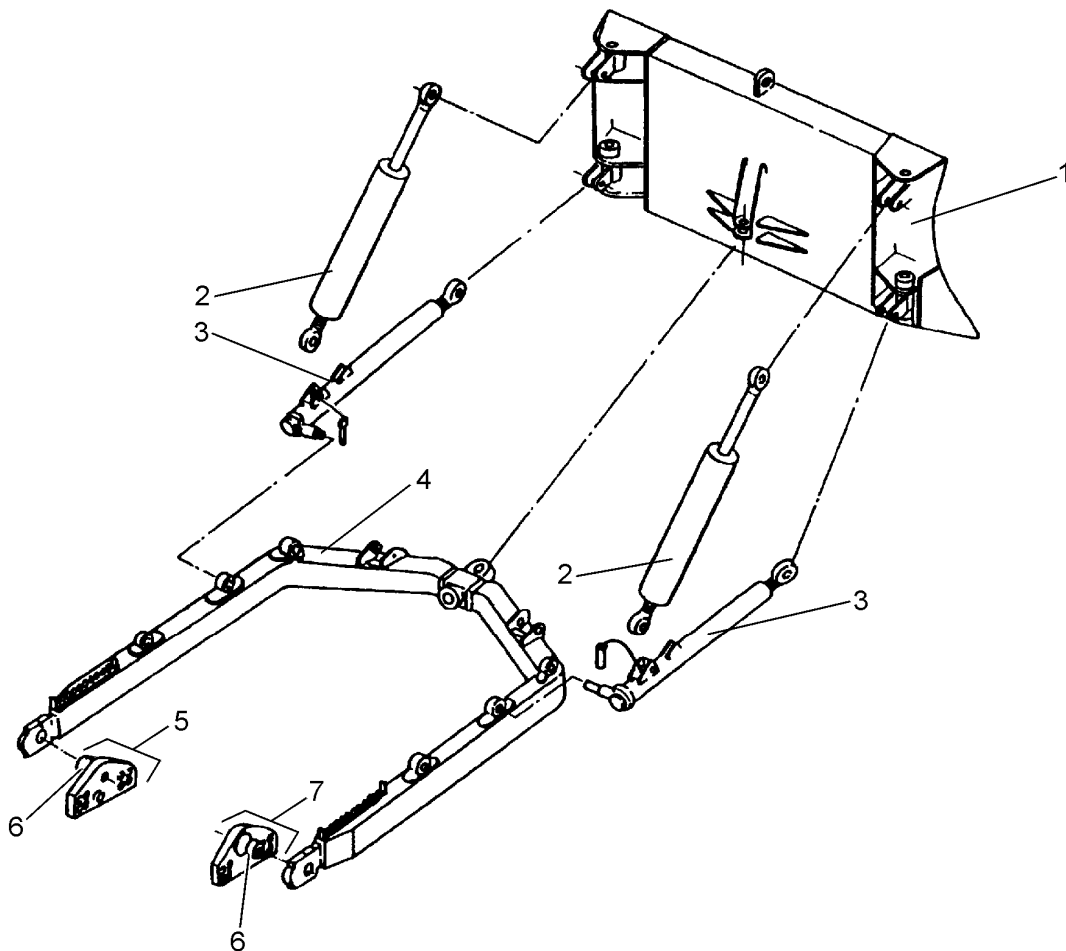

Fig. 17.8. Exploded View of Bullgrader Blade C Frame and Struts
8. REMOVAL (Refer to Fig. 17.8)
1. Lower the blade (1) to the ground and install blocks under the rear portion of the C frame (4).
2. Disconnect the lift cylinder from the C frame (4) by removing the pin locking hardware and drive out the mounting pins. Hydraulically retract the rods and secure the cylinders to the radiator guard with the cylinder hangers.
4. Remove the trunnion cap and shims from each side of C frame (4). Back the machine out from between the C frame.
9. INSTALLATION (Refer to Fig. 17.8)
10. REMOVAL (Refer to Fig. 17.8)
1. Lower the blade (1) to the ground and install blocks under the front of the C frame (4).
2. Disconnect the lift cylinders from the C frame (4) by removing the pin locking hardware and drive out the mounting pins. Hydraulically retract the rods and secure the cylinders to the radiator guard with the cylinder hangers.
5. Remove the pins securing C frame trunnions and free the trunnions from the C frame brackets. Using the hoist, remove the blade (1) with struts (3) and tilt cylinders (2).
6. Install blocks under the rear of the C frame (4) on each side of the machine. Remove cap and shims from each side of C frame (4). Back the machine out from between the C frame (4).
11. INSTALLATION (Refer to Fig. 17.8)
12. REMOVAL (Refer to Fig. 17.8)
13. INSTALLATION (Refer to Fig. 17.8)